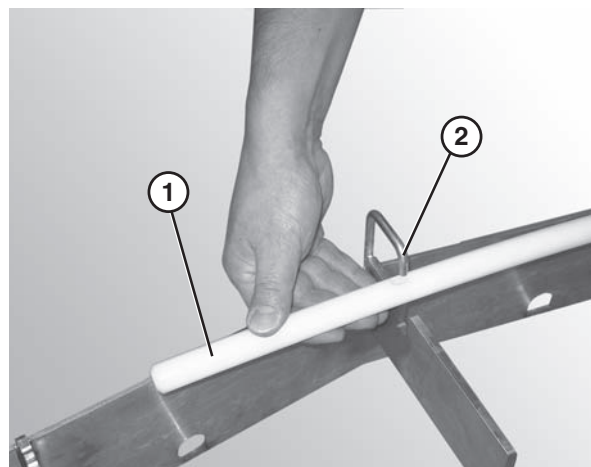

Figure 34
2. Attach the hold down wear strip (**Figure 34, item 1**) to the frame hooks (**Figure 34, item 2**) on the outside of the frame.